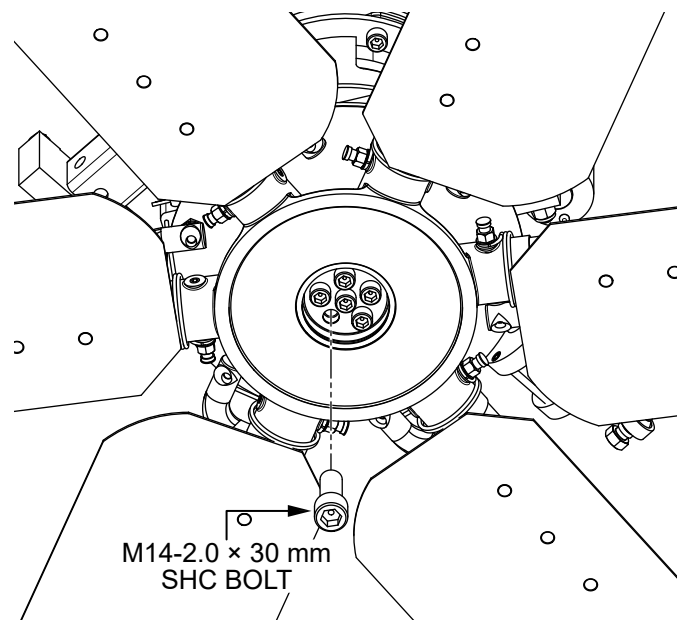

Figure 61. Install Five New Bolts
9. Install the five new **M14-2.0 × 30 mm SHC bolts** as shown in Figure 61. Torque the bolts in a star pattern to 60 lbf-ft (81.3 N·m).